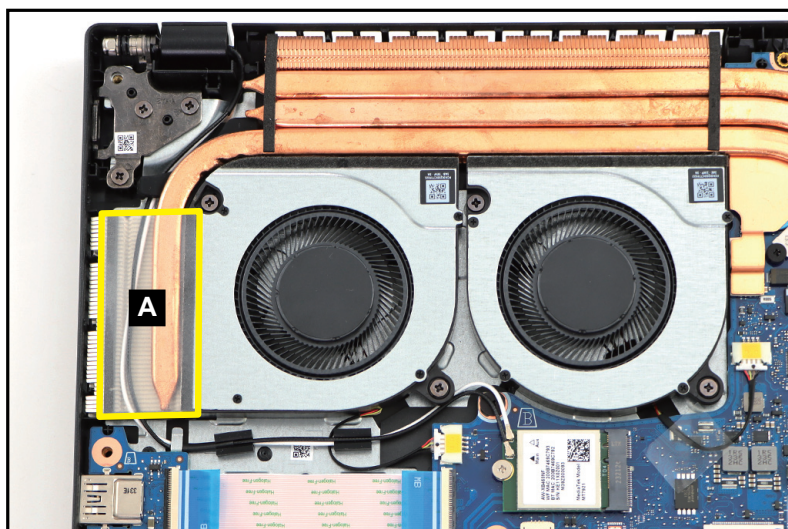

Figure 1-24. LCD Module Removal
1. Detach the thermal mylar (A) securing the WLAN antennas cables on the heatsink (Figure 1-24).